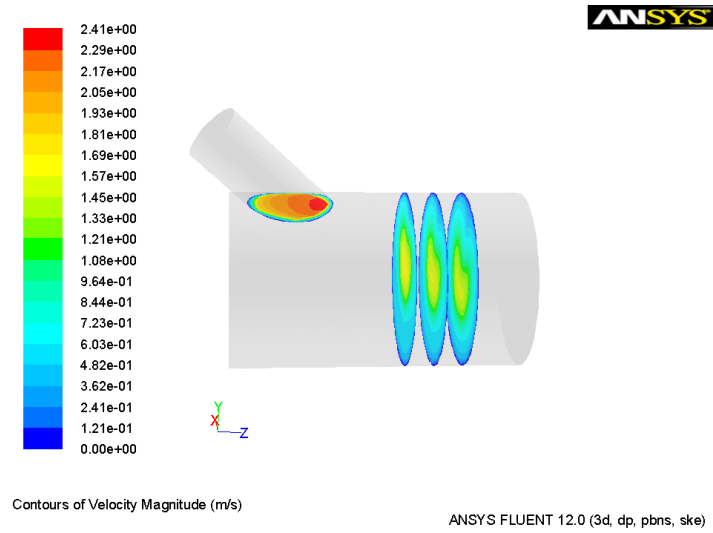

Figure 3: Contours of Velocity Magnitude
- vi. Click Apply and close the Display Properties dialog box (see Figure 3).